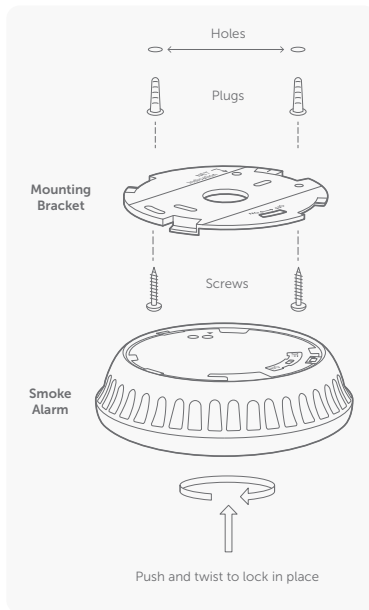

Figure 6
5. Once the alarms are paired and the network created, take alarms to the mounting locations, mark out positions, drill 5mm holes and install ceiling plugs (see Figure 6) and assemble them to the mounting brackets.